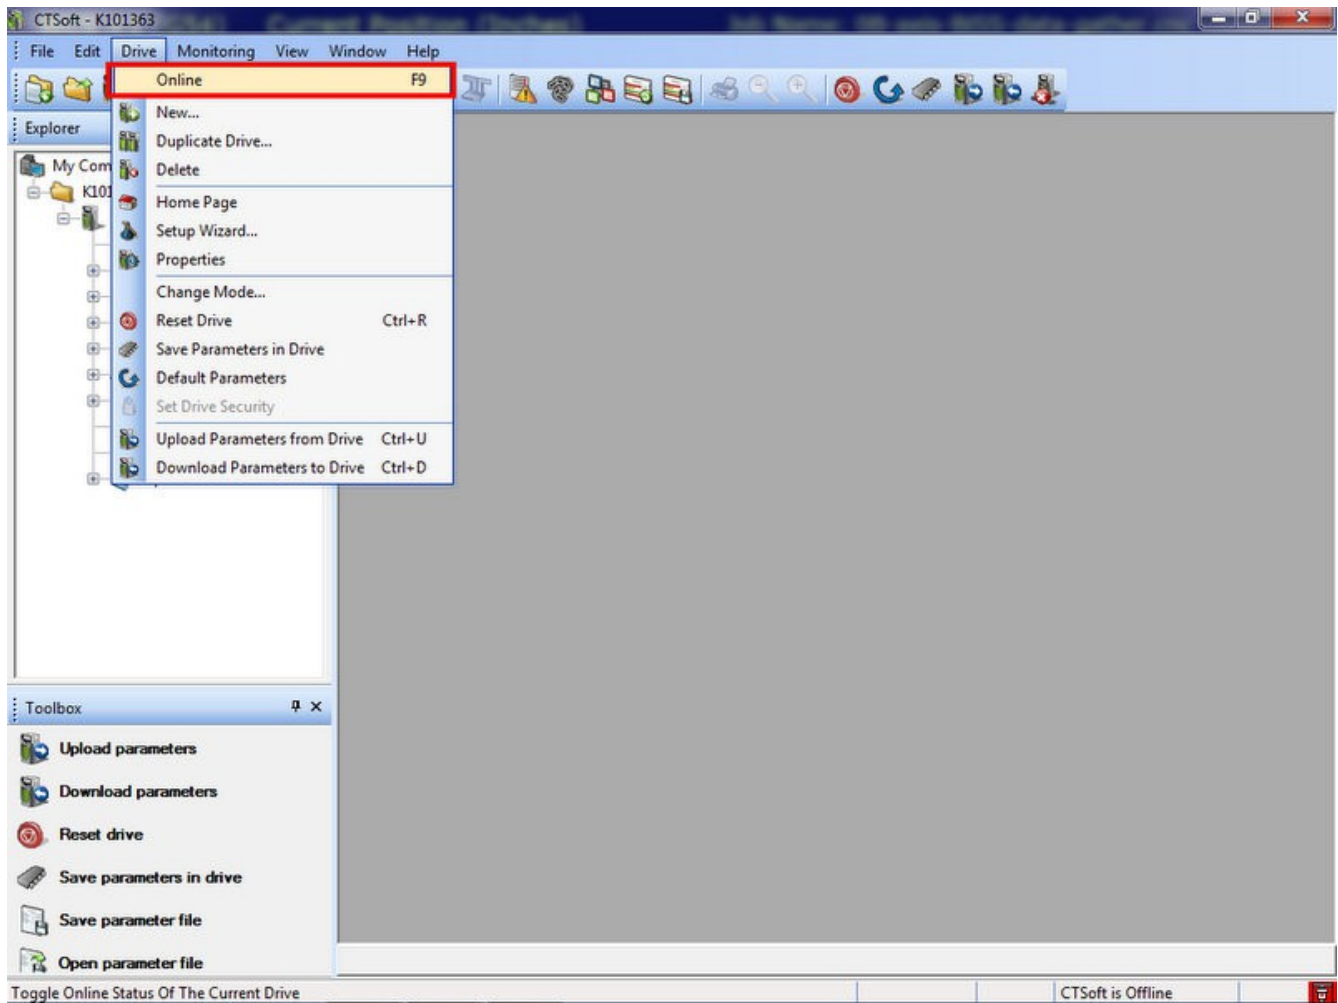

Figure 11
9. Select drive menu and select online. Figure 11